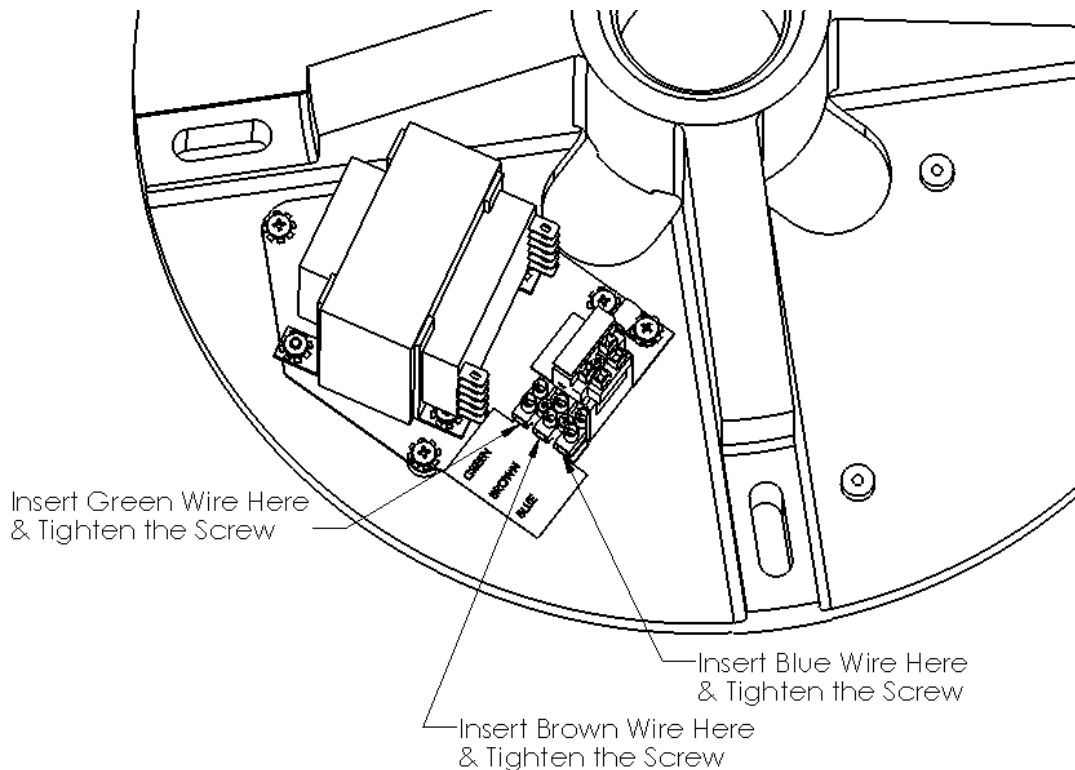

Figure 12. Arm Cable Termination
- Feed the arm power cables thru the ceiling casting large access holes and connect each arm power cable to the appropriate transformer. Strip and twist the wire ends, terminate each respective wire with to the proper connection at the terminal block on each transformer. See figure 12.